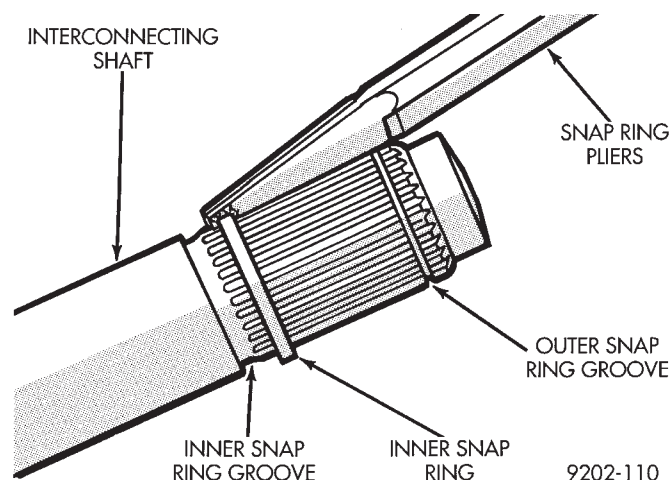

Fig. 19 Inner Snap Ring Installation
(1) Fasten the (new) boot to the interconnecting shaft. See Boots Install.
(2) Install the inner tripod assembly retaining snap ring into the retaining groove on the interconnecting shaft (Fig. 19).